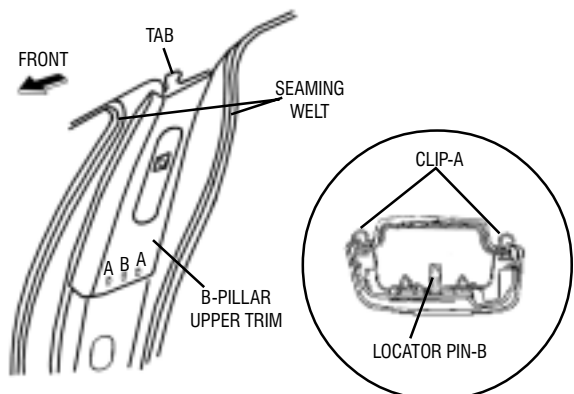

FIGURE 22
- 3.) DETACH THE TAB FROM THE BODY AND REMOVE THE B-PILLAR UPPER TRIM. (SEE FIGURE 22)